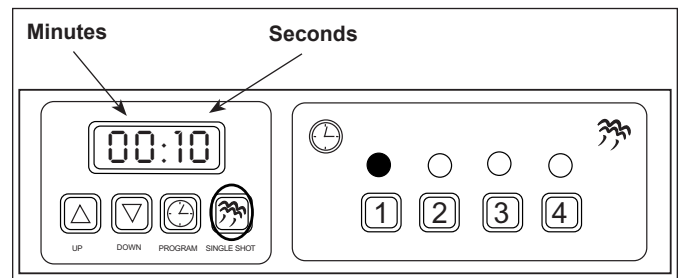

Figure 7. Programming Mode SINGLE SHOT Button Used for Saving All Changed Settings.
NOTE: During preheating, the display will flash "LOW". When unit reaches operating temperature, the display shows the factory pre programmed (default) time in minutes/seconds (Figure 7) and the active channel indicator light will be on.
3. Press the **UP** or **DOWN ARROW** buttons to change the total cycle time in minutes (Figure 7).